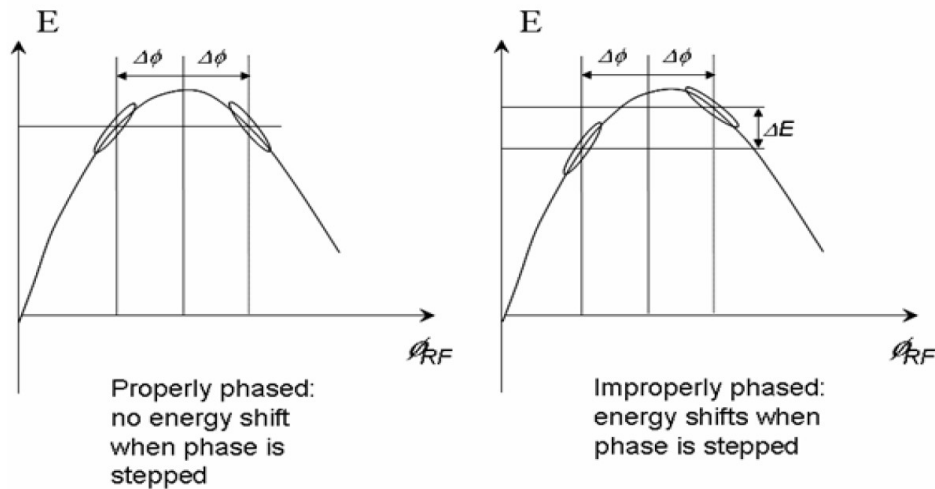

Figure 6-1: Relationships of gang phase, beam position, and energy.
- A. **NO** the XREL average changes more than 0.5 mm as the gang phase is changed by 20° , the module is not properly phased. The relationship between gang phases and linac energy gain is shown below in Figure 6-1. Follow the steps below to phase the module:
- A. NO** the XREL average changes more than 0.5 mm as the gang phase is changed by 30° , the module is not properly phased. The relationship between gang phases and linac energy gain is shown below in Figure 6-1. Follow the steps below to phase the module: